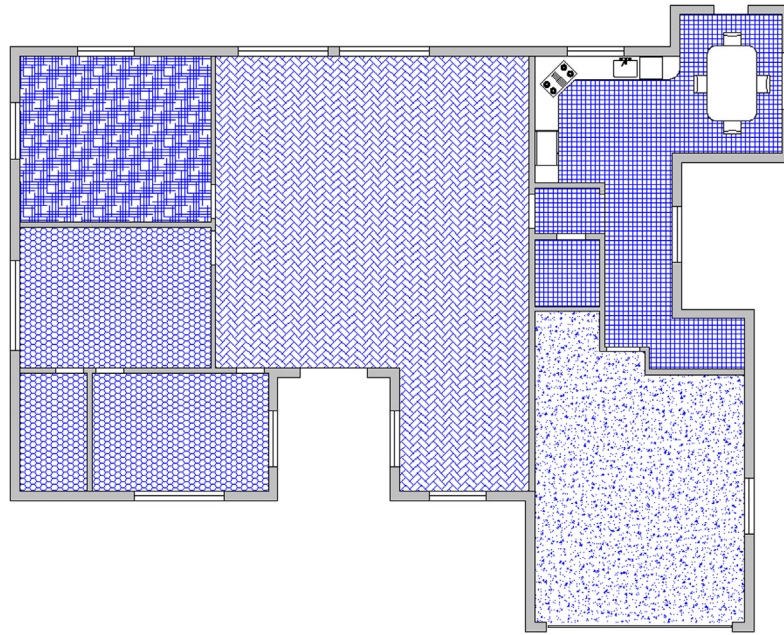

FIGURE 15.78
Step 2. Freeze all layers that are not relevant to the carpeting, leaving only walls, wall hatch, appliances, and windows. Draw a set of temporary lines to block off doorways so the hatch does not bleed from one room into another. Finally, create the carpeting/flooring plan shown in Figure 15.78.